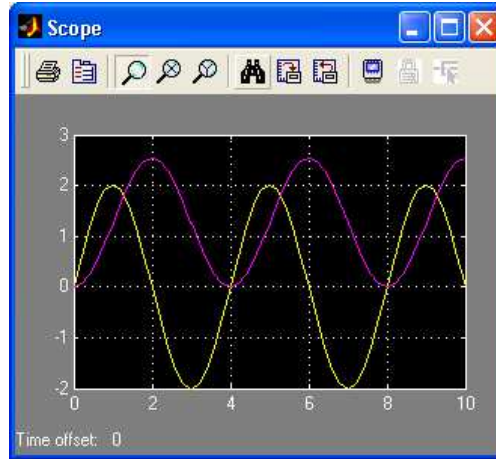

Figure 34: Results of integration of a sine function.
4. With a sine input with amplitude of 2 and frequency of 0.25 Hz and run the simulation from  $t = 0.0$  to  $t = 10.0$  seconds. You should obtain the plot shown in Fig. 34. Note that performing this integration should give
Set the initial condition to  $y(t_0^-) = 10$  (either with an internal or external source) and run the integration from the previous section for the sine wave input. How does the results differ from that shown in Fig. 34?